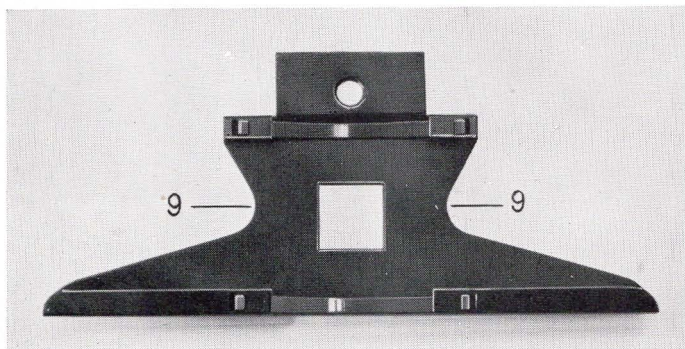
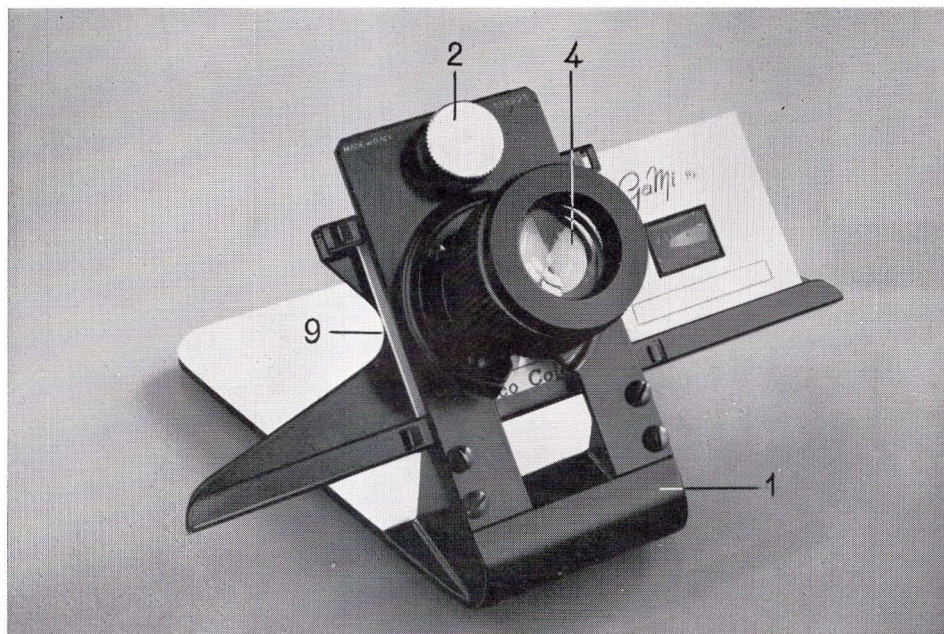

fig. 3
fig. 4
The instrument is set up as in fig. 4, that is, assembling slide holder fig. 3 to the base (1) by means of thumbscrew (2). The slide holder permits observation and prompt substitution of regular slide mounts in the 2"x2" slides.